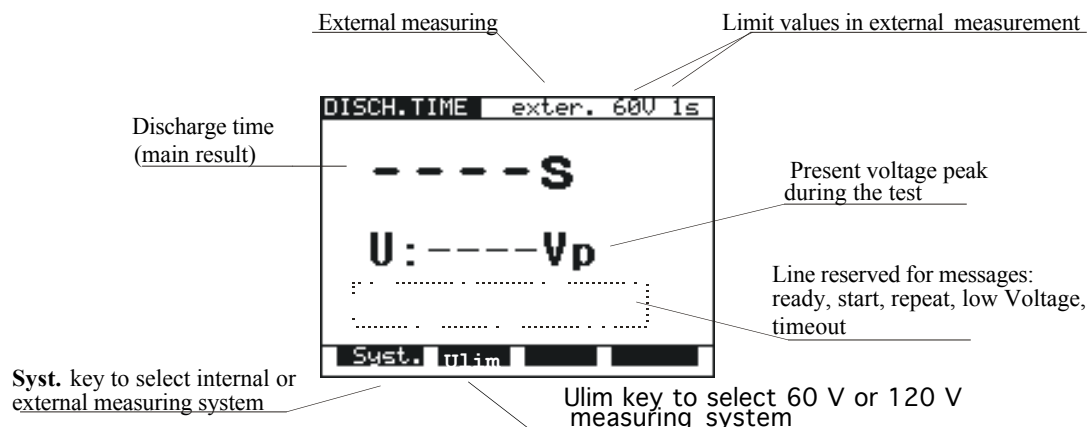

Fig. 26. Main menu in Discharge time function
- STEP 1.** Set rotary switch to **DISC.TIME** (discharge time) position. The heading according to fig. 26 is displayed.